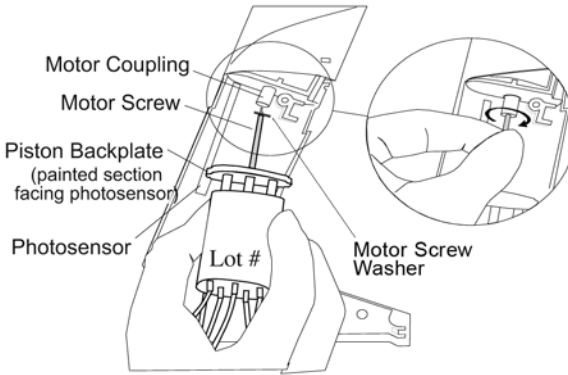

Figure F.2.3e: Installing Piston/Cylinder Assembly
- Carefully insert the flat end of the motor screw into the hole of the motor coupling. This can be accomplished by holding the piston/cylinder assembly at a slight angle while inserting the motor screw into the hole of the motor coupling. Slowly spin the motor screw until the flat end of the motor screw is fully engaged into the motor coupling hole (see Figure F.2.3e). The cylinder can now be seated between the plastic ribs in the main housing.